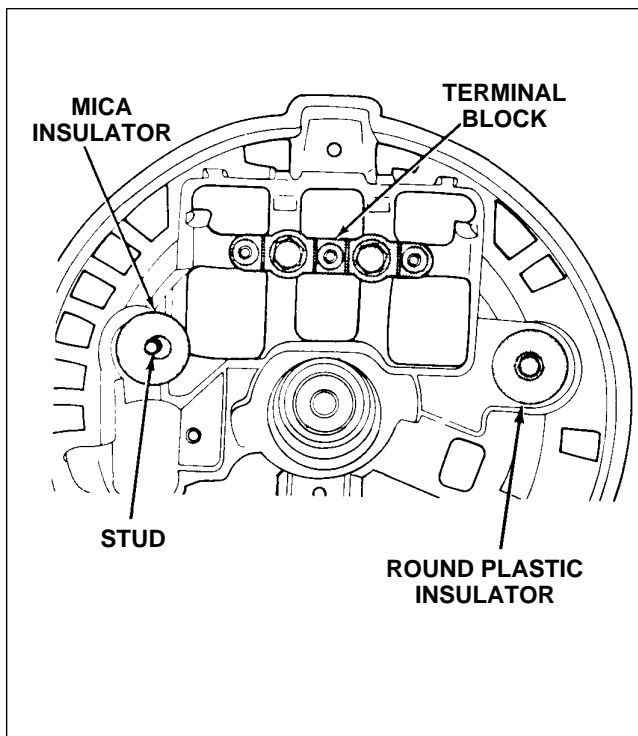

Figure 11-36. Installation of Insulators Assembly
g. Install round plastic insulator, flat face up, in battery stud hole in the end shield. (Refer to Figure 11-36.)